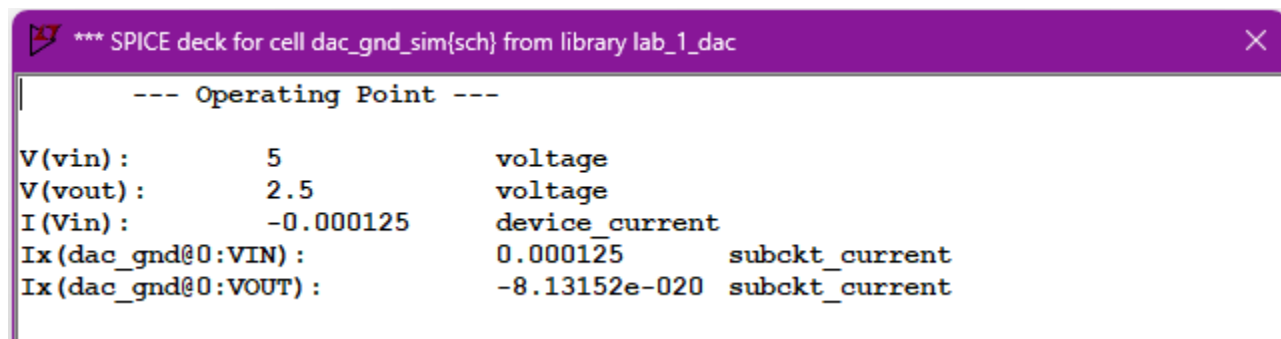

Figure 3.2: Grounded DAC Operating Points
- Figure 3.2 is the operating point of the grounded DAC schematic.